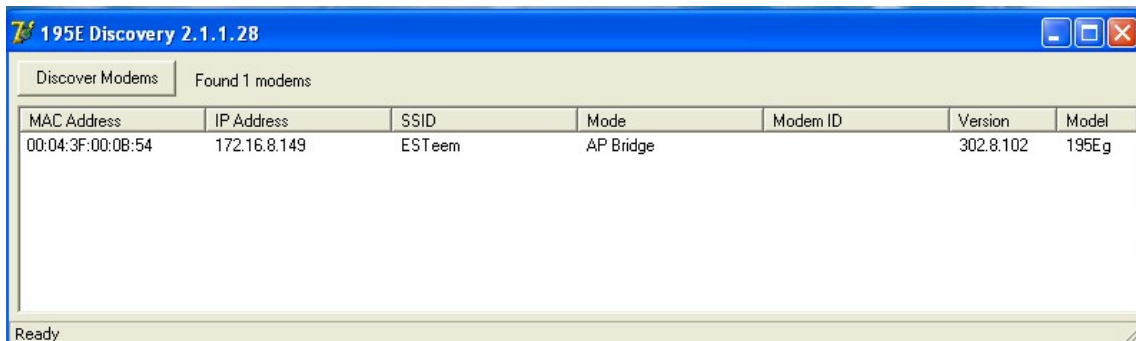

Figure 4: Discovery Program Main Page
- Connect the Model 195Ea to your computer either directly to the Ethernet card or through a HUB/Switch using a CAT-5e Ethernet cable. The Ethernet port on the 195Ea supports Auto-Negotiation, so either a patch cable or crossover cable will work. Open the ESTeem Discovery Program and press the Discover Modems button. The Model 195Ea will be displayed in the program by the Ethernet MAC address and Current IP Address (Figure 4).